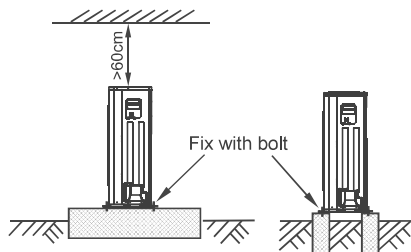

Fig. 6-15
- Make concrete foundation according to the specifications of the outdoor units. (Refer to Fig.6-15)
- Fasten the feet of this unit with bolts firmly to prevent it from collapsing in case of earthquake or strong wind. (Refer to Fig.6-15)